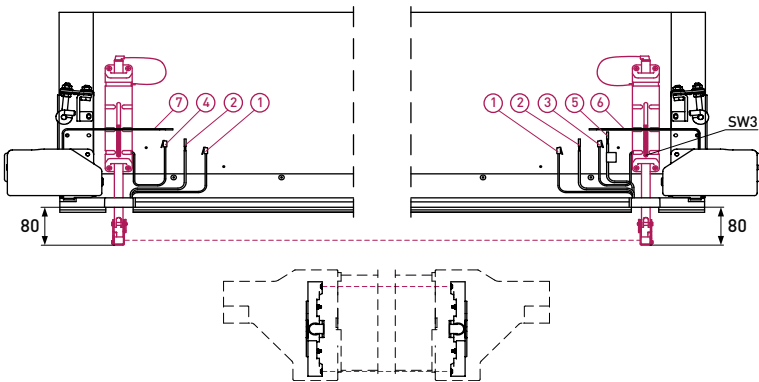

Fig. 1 — Position adjustment of the pin with sensor for **PFS-200KIT**
- When the door is delivered, the **PFS-200KIT** safety system with brackets is mounted on the door leaf in a transport position with the electric cables connected to the connection points. It is necessary to adjust the system after the door is installed (fig. 1):
5. Insert the door leaf cables into kit boxes through cable inlets. *Fig. 1* shows an example of cables for industrial door with wicket with flat threshold: